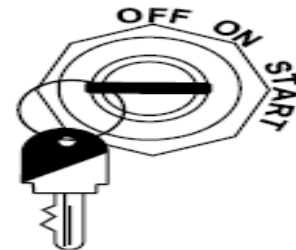

Figure 12. Engine ON/OFF Switch (Electric Start)
6. Turn the engine ON/OFF switch (Figure 12) to the START position and hold it until the engine starts. When engine starts, release the key, allowing it to return to the ON position.
4. Turn the engine on/off switch (Figure 12 or Figure 13) to the OFF position to shut down the engine.
3. Turn the ignition switch (Figure 12) to the OFF position.